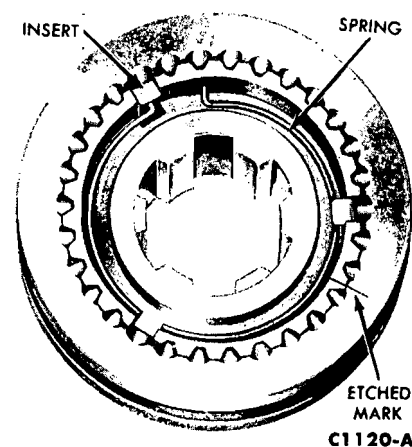

FIG. 16—Synchronizer
2. Assemble the synchronizer unit by installing the two springs on the hub and placing the three inserts in the hub. Hook one spring end in an insert as shown in Fig. 16.
9. Place a blocking ring on the intermediate gear, and install the synchronizer assembly on the transmission output shaft, with the hub thrust surface toward the rear (Fig. 16). Install the snap ring that retains the synchronizer.